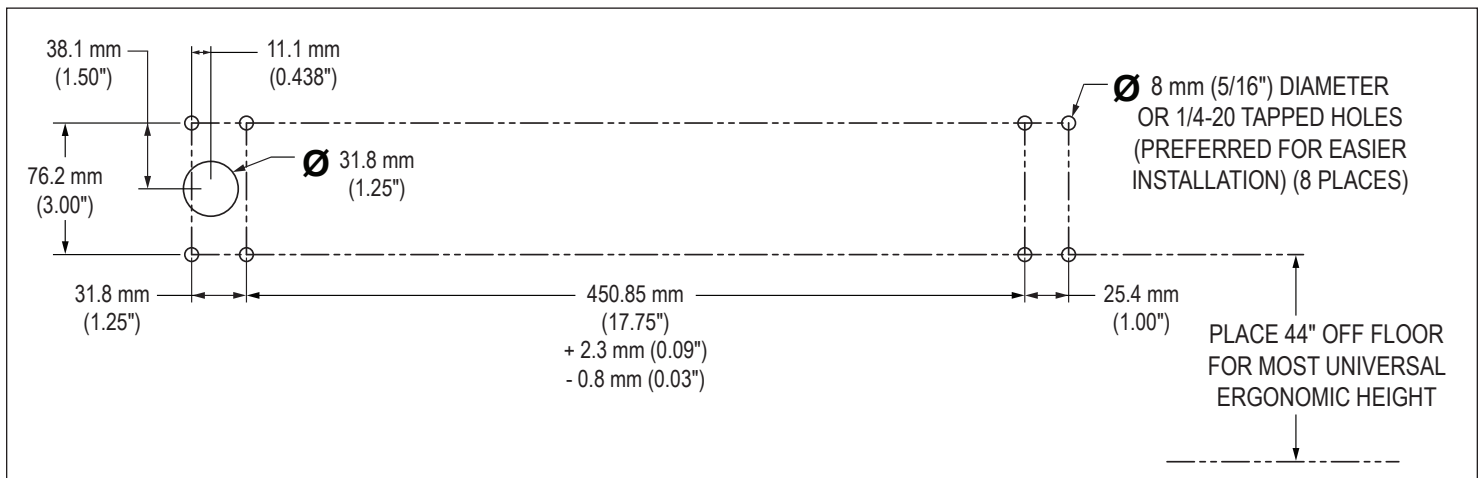

FIGURE 1 – PANEL MOUNTING PATTERN
1. Cut or drill mounting pattern in panel using the provided cutout template. Refer to Figure 1 for the panel mounting pattern.